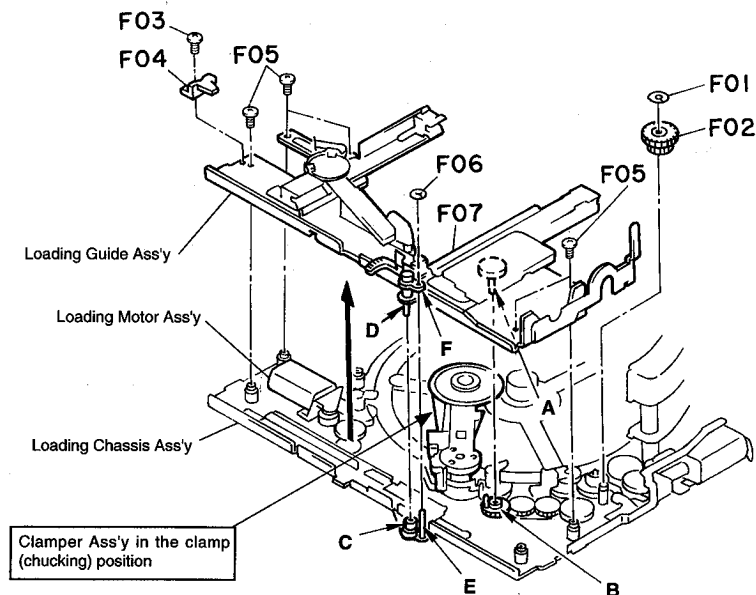

Fig. 2.12.1
- (1) Check if the Clamper Ass'y is in the clamp (chucking) position as shown in Fig. 2.12.1.
Refer to Fig. 2.12.1.
Note that the 3 places "A"- "B", "C"- "D" and "E"- "F" (see Figs. 2.12.1 and 2.12.2) must be correctly positioned.